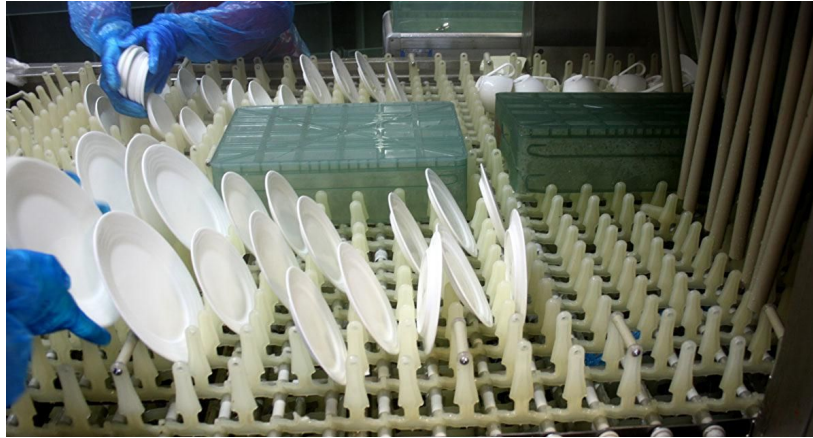

Fig 4-1. Picture of an industrial dishwashing machine
2. Washing Area personnel line up crockery onto the industrial dishwashing machine shown on Fig 4-1.